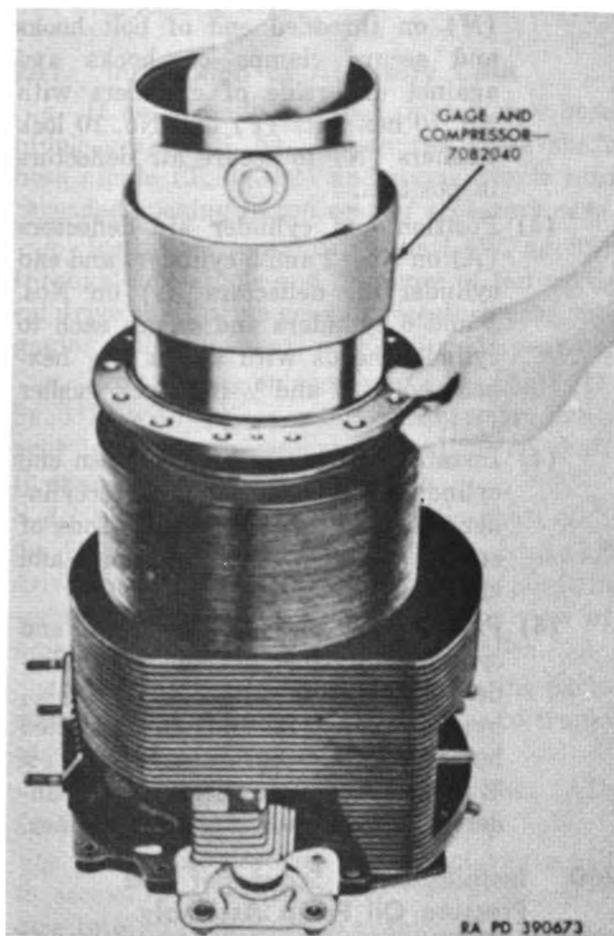

Figure 172. Installing piston in cylinder.
- (1) Thoroughly coat cylinder bore, piston, piston rings, and piston pins with engine oil (OE-50).
- (2) Stand cylinder assembly on head end and place gage and compressor 7082040 (fig. 172) on cylinder skirt.
- (3) Check identifying number on piston and cylinder to make certain they are identical.